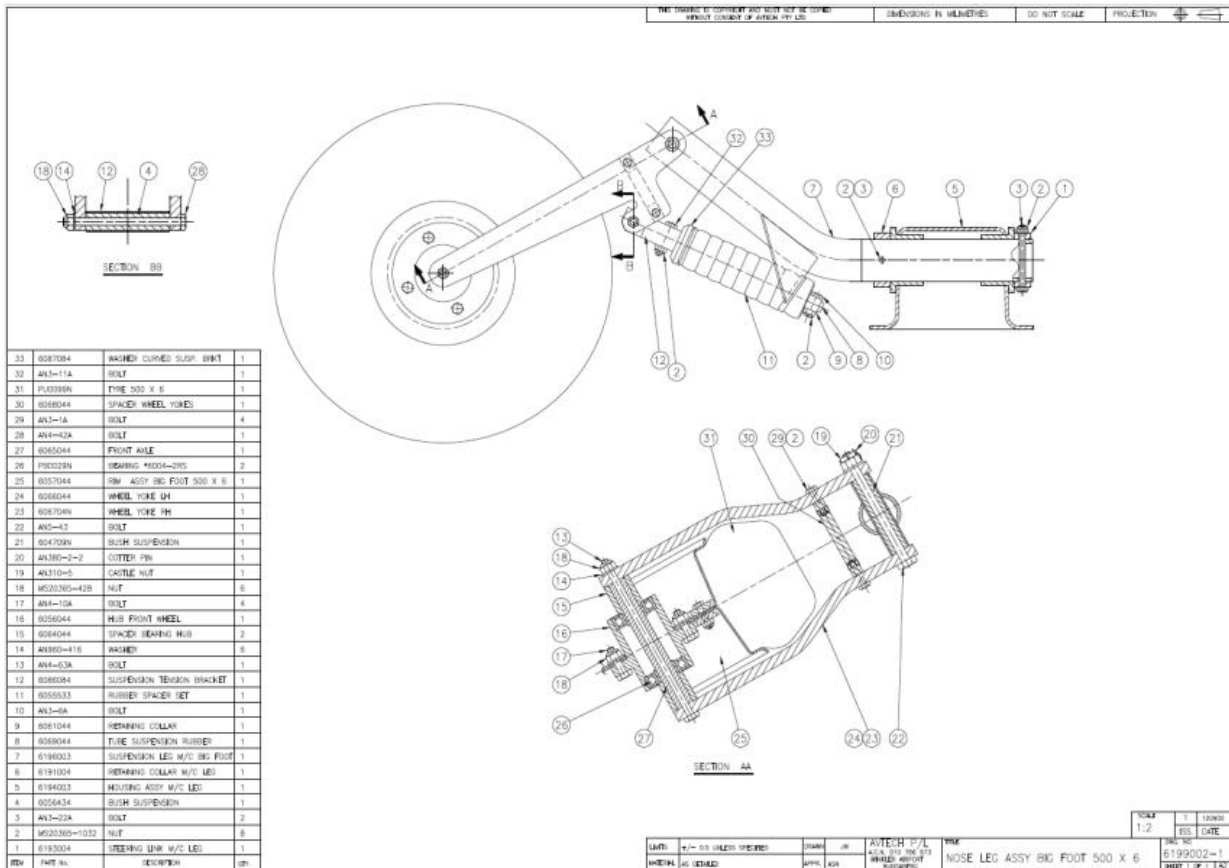

Figure 51 – Fabricated Nose Wheel Yoke Assy
- On earlier aircraft the wheel yoke is bolted together (Figure 51) while later models use a 1-piece part.